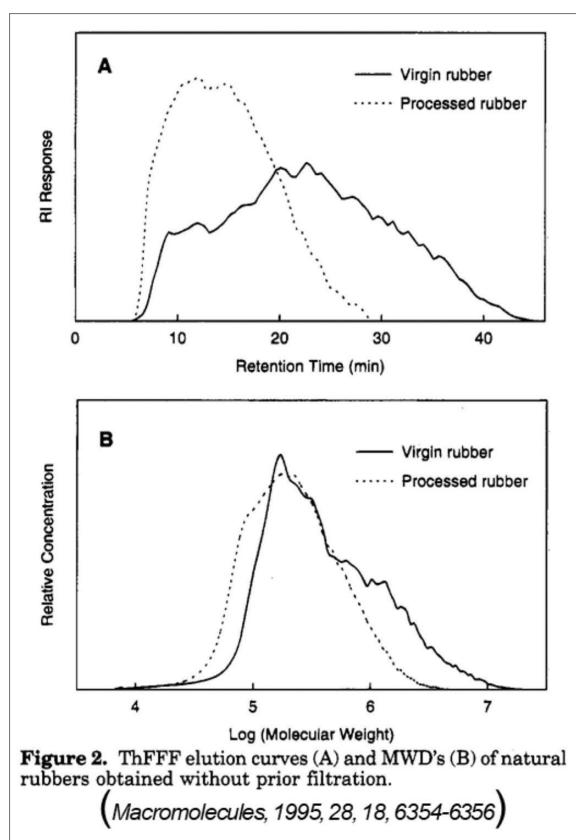

Figure 2. ThFFF elution curves (A) and MWD's (B) of natural rubbers obtained without prior filtration.
Figure 2. Comparison of effluent concentration profiles and fractogram for $G = 28$ gravities and $\gamma = 1.35$ for PVC latex beads ($\Delta\rho = 0.40$ g/mL): (A) calculated intrinsic steric spiking function based on uniform particle size distribution; (B) calculated concentration profile for particle size distribution described by eq 17; (C) calculated fractogram of PVC sample.